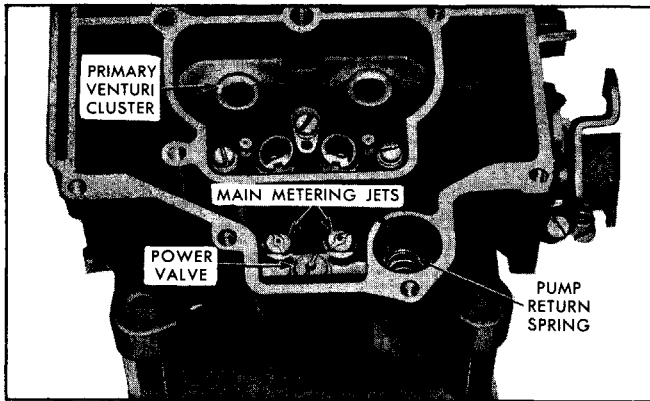

Fig. 6B-121 Carburetor Body Assembly
6. Remove pump return spring from pump well (Fig. 6B-121). Carefully invert carburetor body to remove aluminum pump inlet ball.
7. Using needle nose pliers, remove pump discharge spring guide, spring and steel ball (Fig. 6B-122).